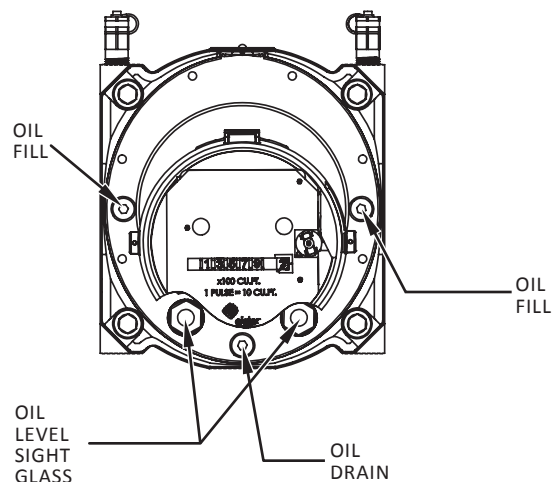

Figure 5. Horizontal installation
- 2) Remove oil fill plug in the counter end case cover using a 5mm hex key [Figures 5 and 6].